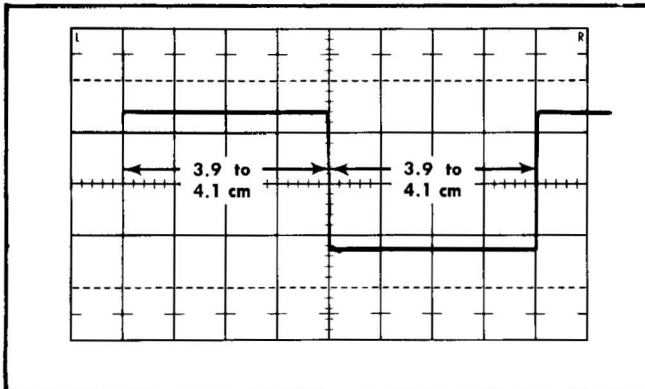

Fig. 6-9. Typical test oscilloscope display when checking Calibrator duty cycle.
- f. Check—length of each segment of the square wave, 3.9 to 4.1 cm (see Fig. 6-9).
- f. Check—Length of each segment of the square wave, 3.9 to 4.1 cm (see Fig. 6-9).